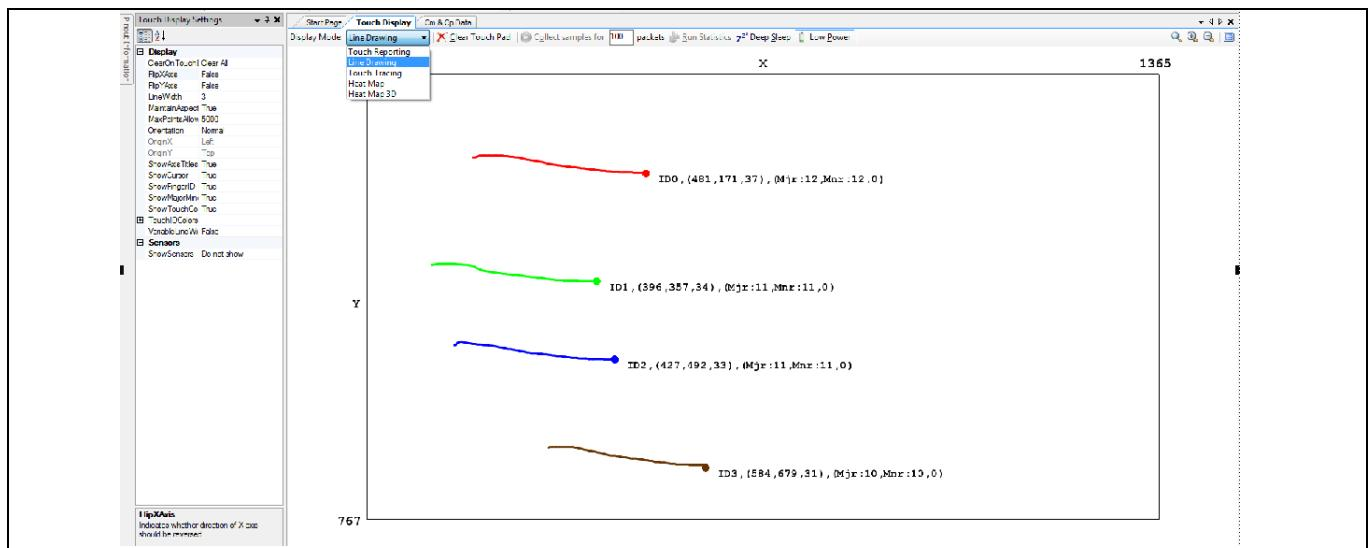

Figure 14 Line drawing mode
14. To enable Line-Drawing mode, select **Line Drawing** from the drop-down menu shown in Figure 14.